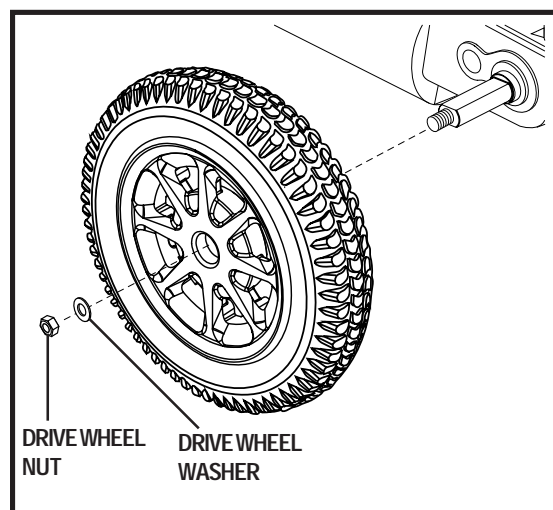

Figure 36. Jazzy 1170XL Drive Wheel
4. Remove the drive wheel nut and washer from the axle. See figure 36.